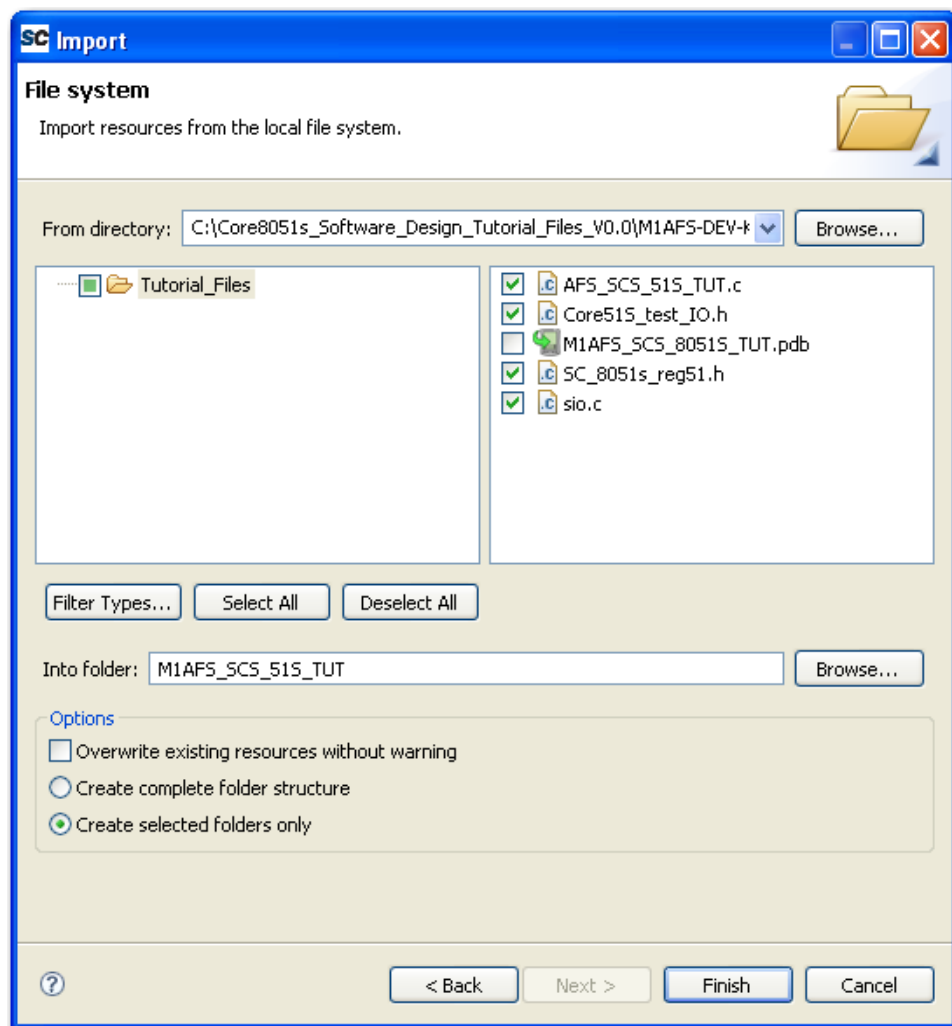

Figure 1-5 · Importing the Files from a Project
5. Click the project name in the Import into Folder box. Click **OK**. Make sure that under option, the **Create selected folders only** option is selected (Figure 1-5).